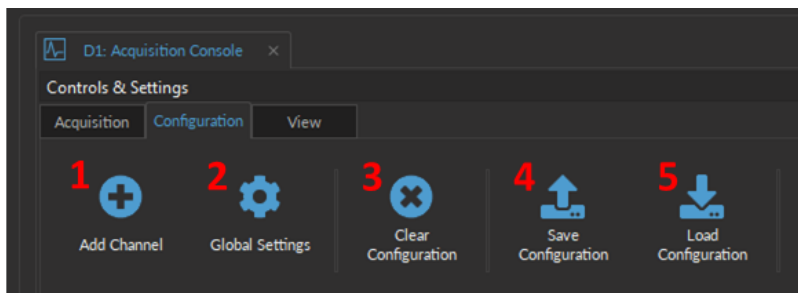

Figure 9.7: Configuration Tab
1. The **Add Channel** button (Fig. 9.7, 1) opens the **Channels configuration** window. How to *add* and *configure* a channel is detailed in Section 9.4. Table 9.1 describes different types of channels available, their use cases and their individual sections.
2. The **Global Settings** (Fig. 9.7, 2) opens the **Global Options** window in Fig. 9.8, where user can set the acquisition sampling rate and specify the master trigger options. See Sections 9.3.2.1 for more details.
3. The **Clear configuration** button (Fig. 9.7, 3) resets the acquisition view and all other parameters set. Any configurations not saved will be lost.
4. The **Save configuration** button (Fig. 9.7, 4) allows a console configuration to be saved in the **.doric** format. This file preserves the current channel configuration/parameters, the Acquisition View window organization, and any custom trace colors and names.
5. The **Load configuration** button (Fig. 9.7, 5) imports a pre-configured **.doric** file into the module.